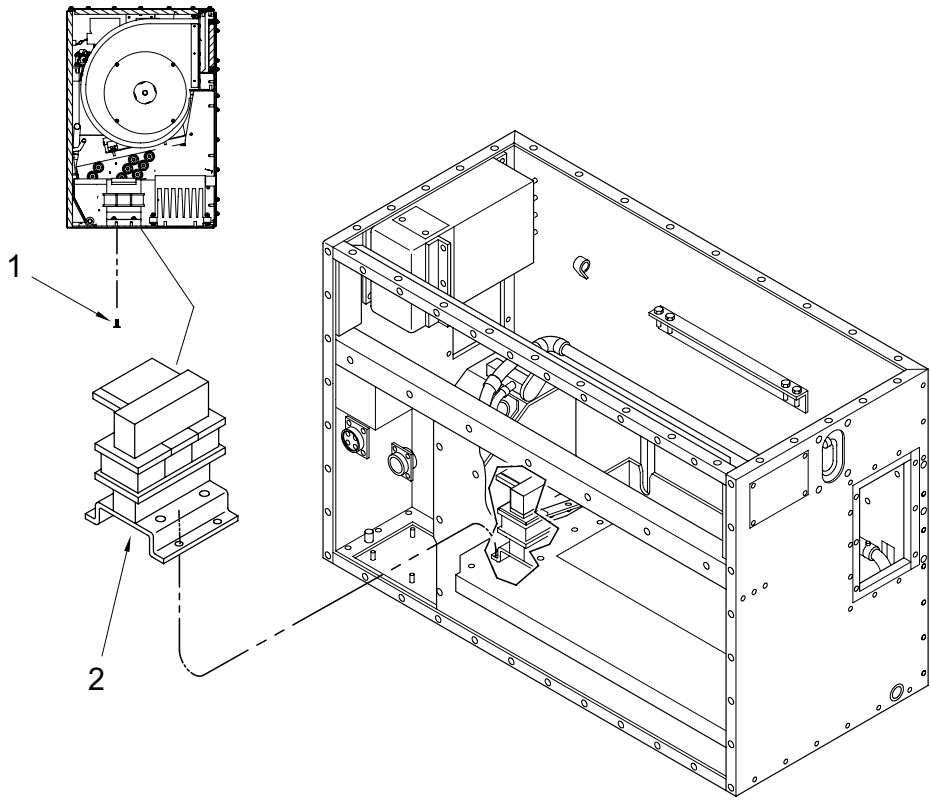

Figure 1. HARMONIC FILTER ASSEMBLY FL2.
1. Remove screws (1) from the bottom of the evaporator securing the harmonic filter assembly (2). Retain screws for installation. See Figure 1.
4. Carefully slide the harmonic filter assembly (2) out the top of the evaporator assembly. Figure 1.
2. Slide the harmonic filter assembly (2) into the evaporator assembly. See Figure 1.
6. Install the mounting screws (1), retained in removal, in bottom of evaporator assembly to install harmonic filter. See Figure 1.